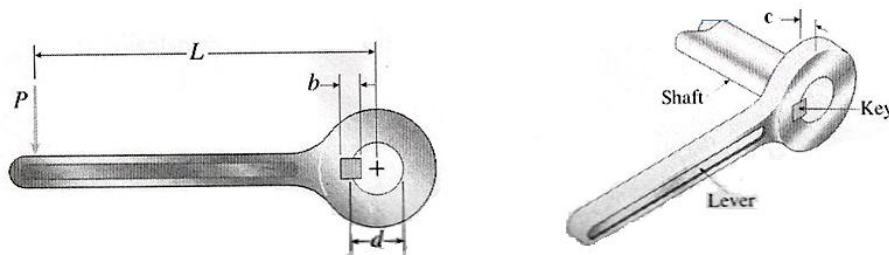

Figure 11a
11. a. A specially designed wrench is used to twist a circular shaft by means of a square key that fits into slots (or Keyways) in the shaft and wrench as shown in the figure 11a. shaft has diameter d , the key has a square cross section of diameters $b \times b$, and the length of the key is c the key fits half into the wrench and half into the shaft (i.e. the keyways have a depth equal to $b/2$). Derive a formula for the average shear stress in the key when a load p is applied at distance L from the center of shaft. Disregard the effects of friction, assume that the bearing pressure between the key and the wrench is uniformly distributed and draw free -body diagrams of the wrench and key. (12)